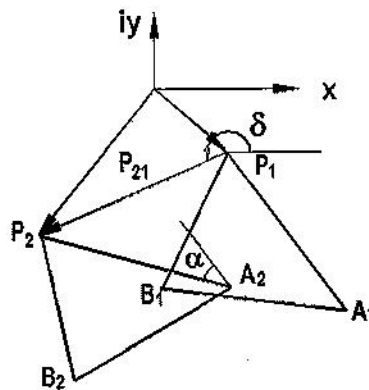

Fig.Q6
6. Design a 4R linkage, which will move a line AP on its coupler APB such that a point P on that line will be first at P_1 and then at P_2 (Fig. Q6). The line will also rotate through an angle α between these two precision positions. δ and P_{21} define the positions of P_1 and P_2 with respect to a frame x-iy. For $\delta = 210^\circ$, $\alpha = 20^\circ$ and $P_{21} = 50$, find the lengths and angles of the four links and the coupler link dimensions A_1P_1 and B_1P_1 .